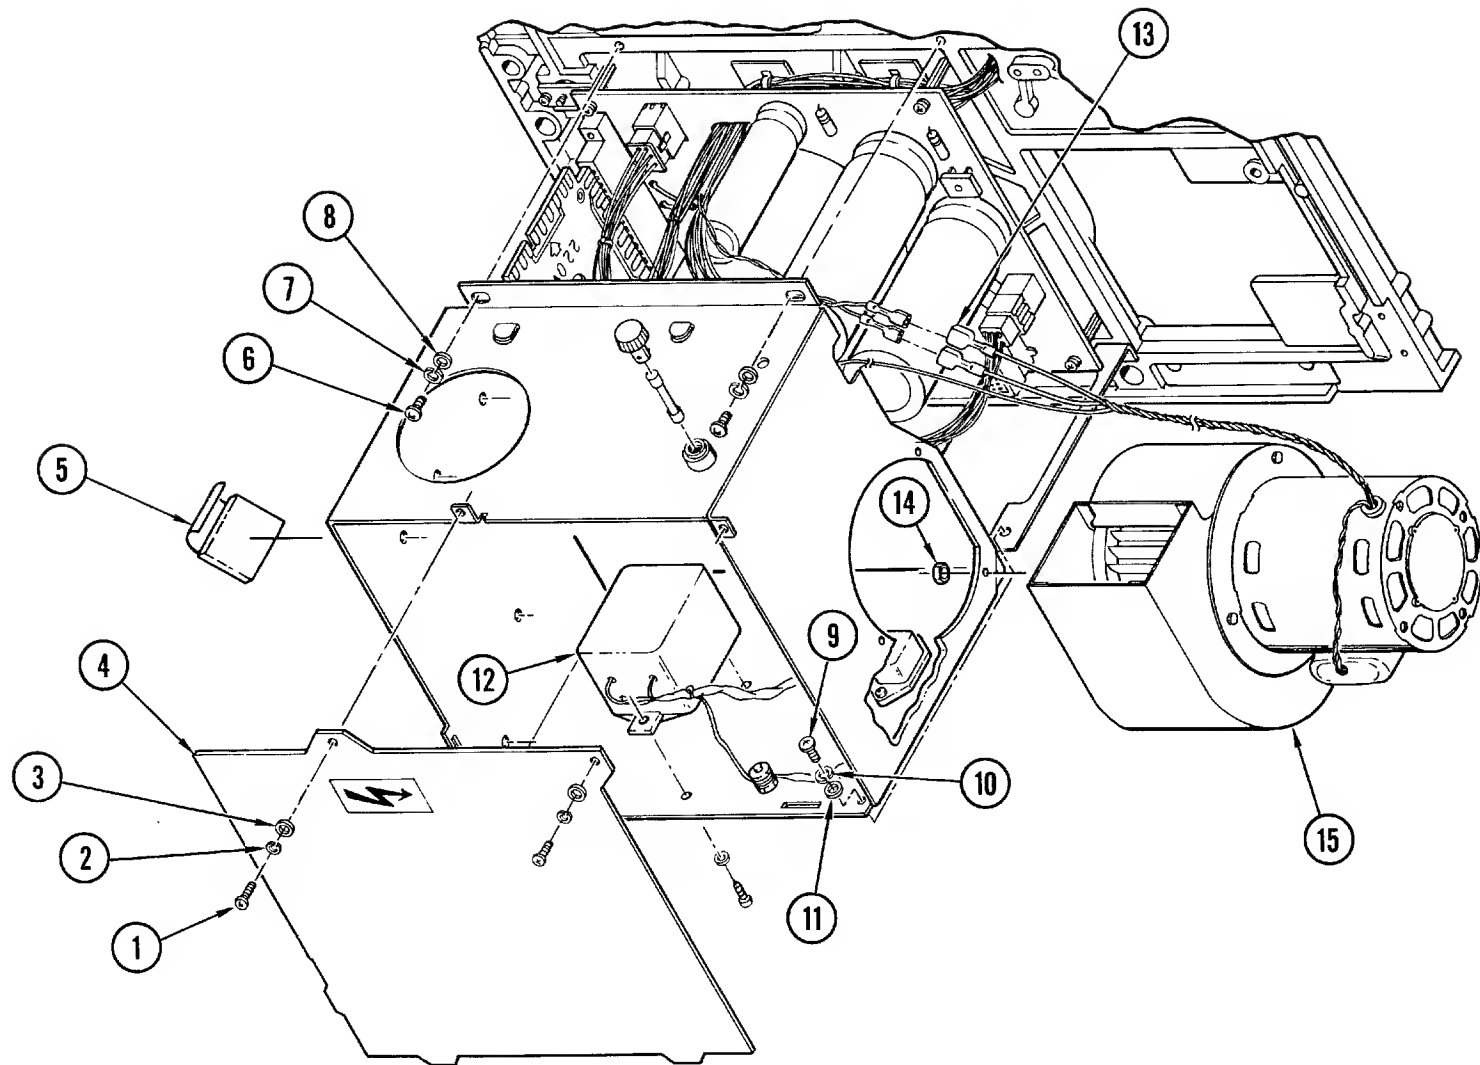

Figure 4-24. Power Supply Assembly
4-38. Removal and Replacement (Figure 4-24). Place the drive in service access position in accordance with instructions in paragraph 4-3 and proceed as follows:
- c. Remove screws (1, Figure 4-24), lockwashers (2), and flatwashers (3) securing power supply cover (4).
- d. Remove wiring harness from clip cord (5) securing wiring harness to outside of power supply chassis, and disconnect wiring harness connector from power supply PWB.
- e. Remove screws (6), lockwashers (7), and flatwashers (8) securing power supply chassis to top plate.
- f. Remove screws (9), lockwashers (10), and flatwashers (11) securing chassis to rear bracket.
- g. Disconnect air pump wires (13) and terminals from EMI filter (12) noting position from which removed.
- h. If air pump assembly (15) is to be replaced, remove nuts (14) securing air pump to chassis.